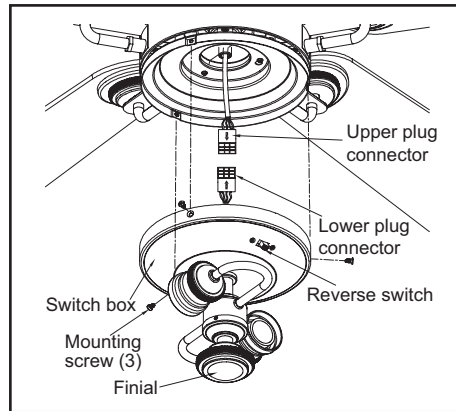

Figure 15
3. Remove three screws from the switch box cover. Connect the molded adaptor plug in the switch box with the molded adaptor plug of the fan motor assembly. (Figure 15)
4. Install the three screws that were removed in step 3. Tighten all three screws firmly. (Figure 15)
The fan shipped from the factory with the reversing switch positioned to circulate air downward. If airflow is desired in the opposite direction, turn your fan off and wait for the blades to stop turning, then slide the reversing switch (located at the top of the motor housing, refer to figure 15 on page 9) to opposite position, and turn fan on again. The fan blades will turn in the opposite direction and reverse airflow.